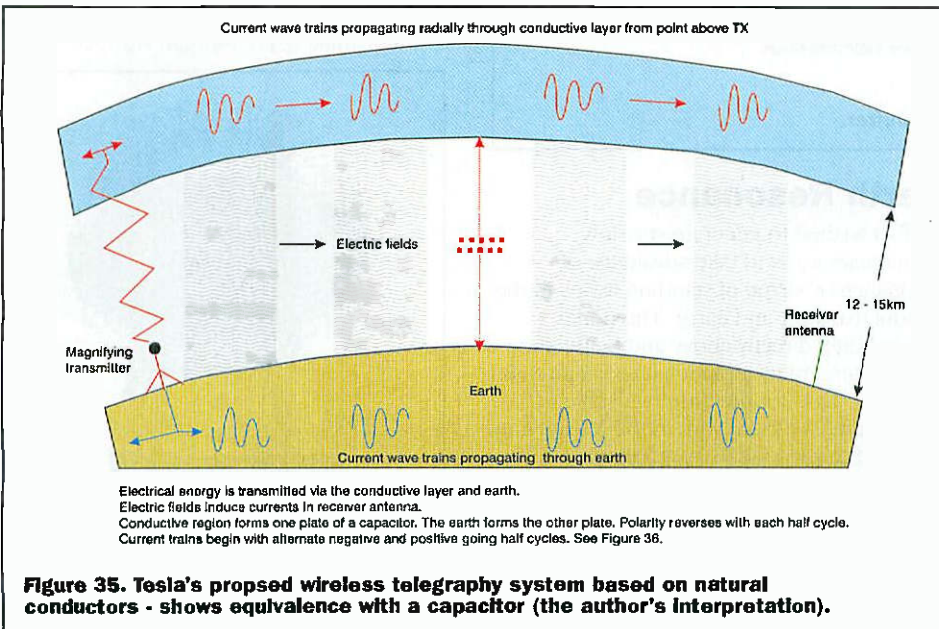

Figure 35. Tesla's proposed wireless telegraphy system based on natural conductors - shows equivalence with a capacitor (the author's interpretation).
As we will see, the concept of electrically charged, or conductive layers high above the earth foreshadowed the discovery of the ionosphere. Moreover, propagation of energy via a conductive layer, as visualised by Tesla, bears a striking resemblance to the Sanguine system. See Figures 35 & 45.
However, Tesla abandoned the above concept and experimented with a 'wireless' communication system based on the conductive layer serving as one 'plate' of a capacitor with the surface of the earth serving as the second 'plate'. The electric field between the two 'plates' would induce currents in short receiver antennas. See Figure 35. Tesla believed that an electric charge could be induced in the upper 'plate' by means of an intense electric field produced by a relatively short antenna energised with a potential in the order of several MV. Electrodes would make the earth connection. Currents would then propagate concentrically through both the conductive layer and the earth's surface from the points directly above and below the transmitter antenna. So with Tesla's system, wavelength applies to these currents whereas with Marconi's system it applies to radiated waves.
electric fields would induce electric currents in distant receiver antennas. Moving electric fields can be visualised as longitudinal waves i.e. propagating similarly to sound waves but with variations in the strength of the electric fields. See Figure 35.
Waves advance with a vertical front and vertical electric (E) field. Field penetrates ocean and induces currents in a submarine's antenna. Wave front bends near earth to become almost horizontal. Upper part of wavefront terminates in ionosphere and probably involves all regions. Compare with Tesla's system Figure 35. See also Figure 08 part 1.
in the atmosphere as ground waves may also be significant. On the other hand, propagation of extremely long waves via the earth/ionosphere waveguide - see Figure 45 - does bear a remarkable similarity to Tesla's concept - see Figure 35. So perhaps we should keep an open mind on longitudinal waves.